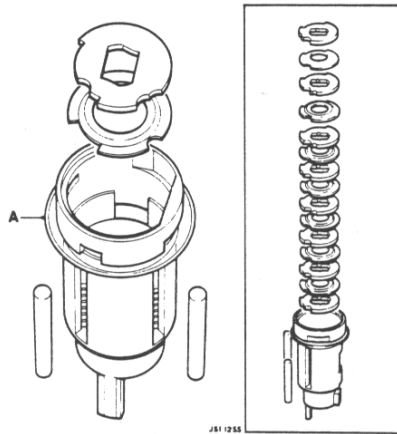

FIG. 7
.Install plastic seal onto lock barrel, (Fig. 7 A).
.Assemble disc and spacer washers into the lock barrel in key cut order. Apply a small small amount of grease to each disc/spacer face. Align the steel roller with slots, (Fig. 7).
- .Apply grease to the steel roller and install into the lock barrel, (Fig. 7).